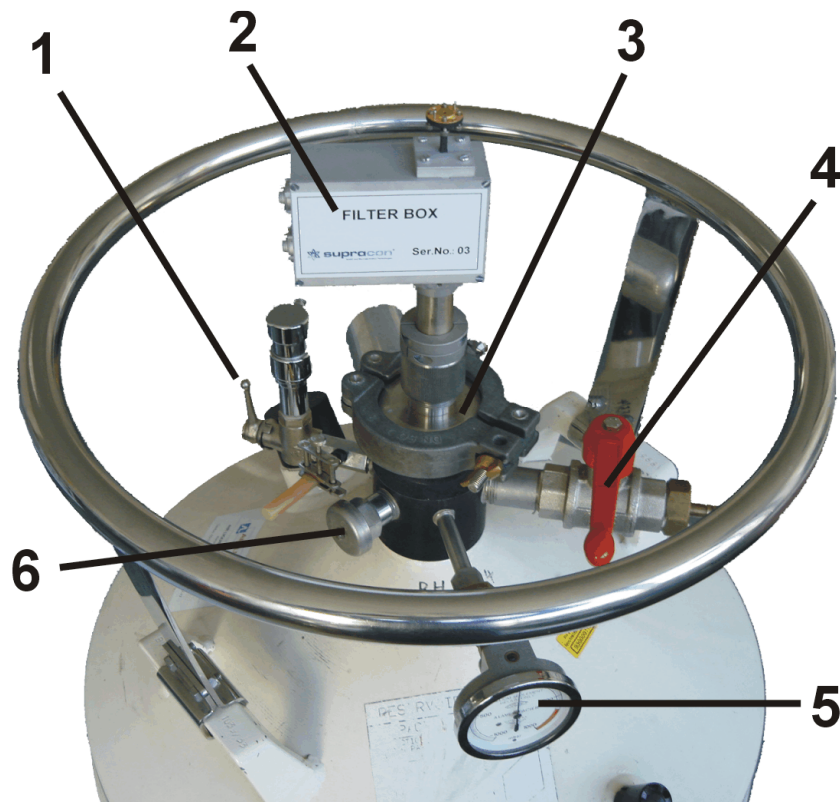

Figure 14: Top view of the liquid helium Dewar with the inserted cryoprobe.
- **No overpressure exists, see in Figure 14 the differential pressure manometer (5) on the Dewar!**
- **Secondly the gas discharge valve (4) of the Dewar is in the open position!**
Slightly tip on the differential pressure barometer (5 in Figure 14) with a finger in order to overcome the friction in it and to improve the measurement. Cool down slowly: Insert the cryoprobe in small steps into the liquid helium Dewar over a time of at least 40 minutes.
2. **Open the gas discharge valve (4) and open the road transport relief valve (1) of the Dewar**, see Figure 14.
3. Slide the ND50 sliding Dewar mount flange (3 in Figure 14) of the cryoprobe down to the cryoperm shield and fix this position by means of the variable clamp.
5. Close the gas discharge valve (4), the road transport relief valve (1) must be still open.
Open the discharge valve (4 in Figure 14), open the flange clamp, pull out the cryoprobe, insert the BHK head, fix it with the flange clamp, and close the gas discharge valve (4 in Figure 14) of the Dewar.